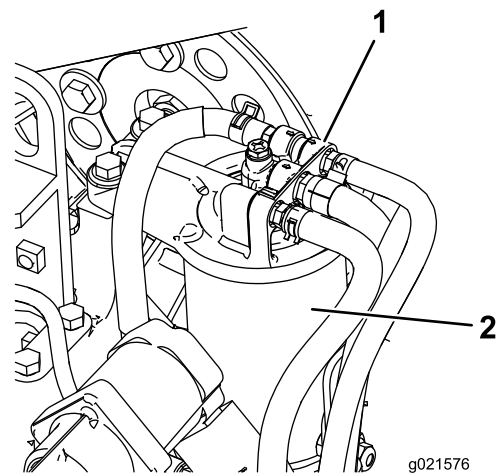

Figure 43
1. Clean the area around the fuel filter head (Figure 43).
2. Remove the filter and clean the filter head mounting surface (Figure 43).